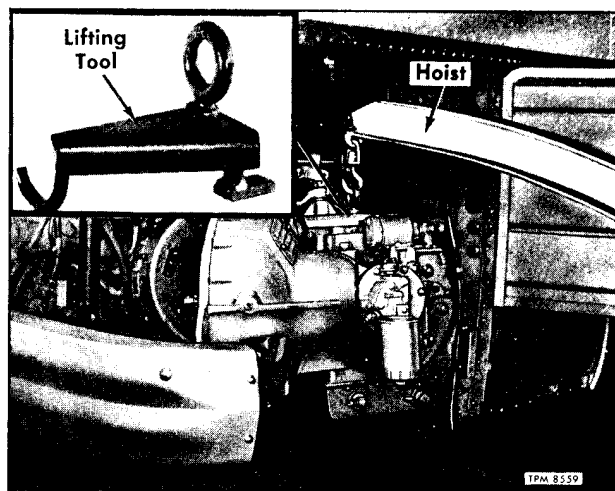

Figure 10—Removing Transmission With Hoist and Lifting Tool
10. Attach lifting tool and hoist (fig. 10) to support weight of transmission, then remove nine remaining bolts at clutch housing flange. Move transmission assembly straight away from engine until shaft splines are disengaged from clutch disc hubs, then turn transmission and remove from engine compartment.
2. Attach lifting equipment and raise transmission assembly to level of engine assembly (fig. 10). Roll the hoist into position and swing transmission into engine compartment. Guide splined shaft into position in clutch disc hubs. Align clutch housing flange with engine flywheel housing and install nine attaching bolts and washers from clutch housing side. Install eight bolts and washers from flywheel housing side using tubular spacers on three of the bolts at original locations.
4. Connect suction and discharge lines (14 and 15) to threaded fittings at transmission. Line (14) is clipped at ventilation cover bolt at bottom of clutch housing. Check transmission drain plug, which must be tight. Install dipstick and tube on late vehicles.
5. Install grease cup (1) at clutch housing. Install air cylinder bracket (9) on transmission cover. Mount air cylinder (7) using clevis pins at